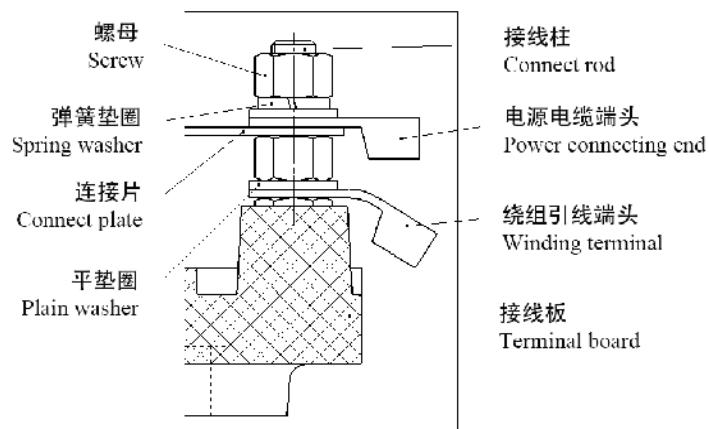

图5 Fig.5
6.5.3 单独提供接线盒的电机上，有一根长约1米的引接电缆。请根据需要将接线盒安装到位，再将引接电缆从接线盒底部引入，接线端标志将引接电缆的接线端头与接线板对应的接线柱妥善联接（见图5），再按5.5.2要求与电源联接。
6.5.3 About one meter long power wire is available on the motor with another added separative terminal-box. Please fit the terminal-box on the required position, then lead the power wire into the terminal-box from below, please connect the terminals on the power wire to the terminals on the terminal board according connecting marks (see Fig 5), connect power according stipulation 6.5.2.